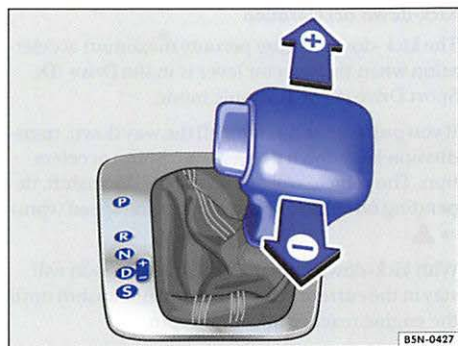

Fig. 125 Selector lever in Tiptronic position (left-hand drive vehicle). Right-hand drive vehicle is the mirror opposite of left-hand drive.
- Push the selector lever sideways to the right from Drive (D) position into the Tiptronic position ⇒ ⚠ in *Automatic transmission: Selector lever* on page 182.
- Briefly push the selector lever forward ⊕ to upshift into a higher gear or backward ⊖ to downshift into a lower gear ⇒ fig. 125.